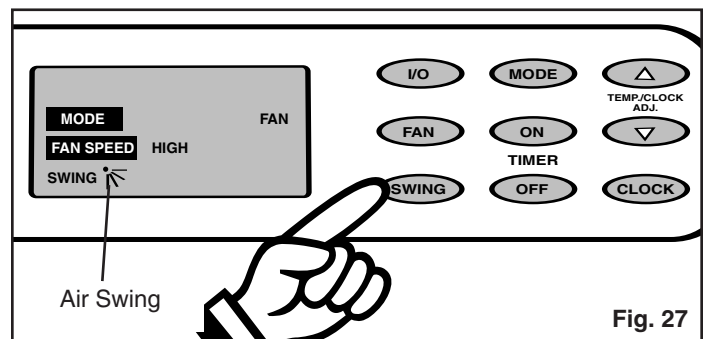

Fig. 27
- 4) Press the **SWING** key to activate the automatic air swing (oscillating) feature (the air swing symbol will appear in the **LCD** window). *Fig. 27*. To deactivate the air swing feature, press the **SWING** key again.